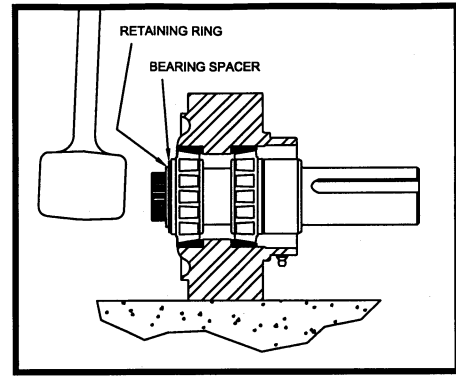

Figure 6.3.6.5 Final Assembly of Output Shaft Housing
14. Hold housing on its' side and with a blunt instrument, rap on the inboard side of shaft. **Reference Figure 6.3.6.5 (next column).**